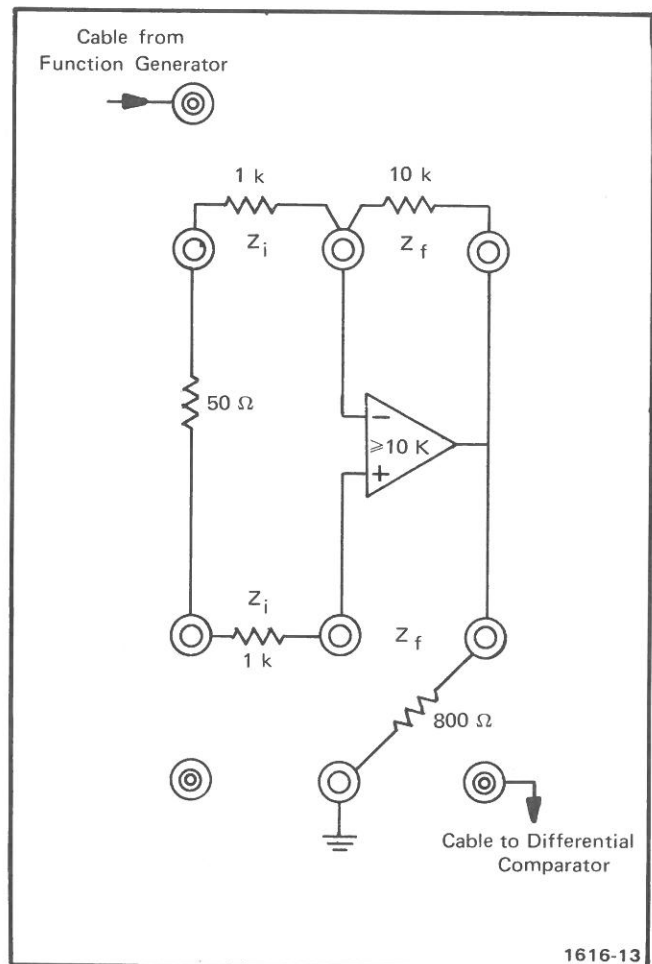

Fig. 2-4. Operational amplifier connected to check Slew Rate.
b. Connect a $50\ \Omega$ resistor between the AM 501 input terminals as illustrated in Fig. 2-4.